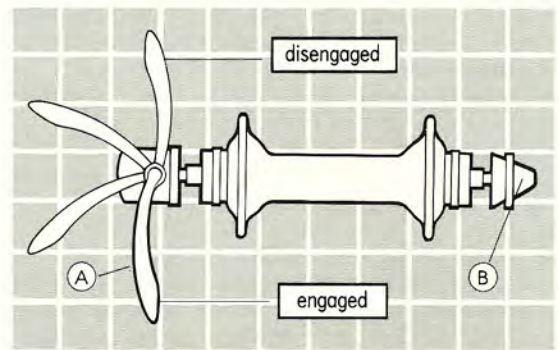

Figure 10. Hub quick release
**Front Wheel Removal.** Disengage the front brake quick release lever and open the hub quick release skewer by pulling the skewer lever away from the wheel and turning it 180° toward the front of your bicycle (see Figure 10). Slip the wheel out of the fork.